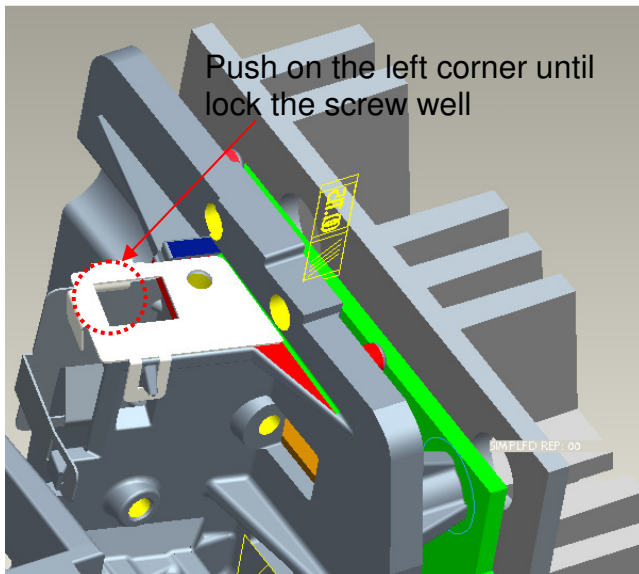

Fig. 1-6
- (5) When lock the screw of Baffle LP, the hand must push the left corner of Baffle LP before (Fig. 1-6).